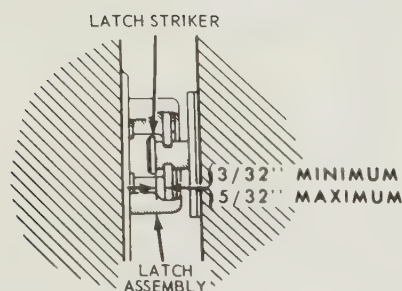

Fig. 12.3. Door latch striker adjustment (Sec. 12)
- 5 The latch striker may also be shimmed to obtain the correct clearance between the striker and latch as shown in Fig. 12.3.